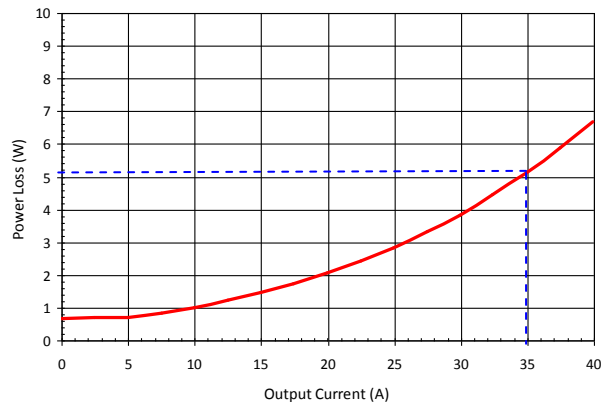

Figure 9: Typical IR3558 Power Loss
The measured single-phase IR3558 power loss under the same conditions is provided in Figure 9.
If any of the application condition, i.e. input voltage, output voltage, switching frequency, PVCC (HVCC/LVCC) MOSFET driver voltage or inductance, is different from those of Figure 9, a set of normalized power loss curves should be used. Obtain the normalizing factors from Figures 11-15 for the new application conditions; multiply these factors by the power loss obtained from Figure 9 for the required load current.
- 1) Determine the power loss at 35A under the default test conditions of  $V_{IN}=12V$ ,  $V_{OUT}=1.2V$ ,  $f_{SW} = 400kHz$ ,  $L=150nH$ ,  $PVCC$  (HVCC/LVCC) = 7V,  $T_{AMBIENT} = 25^{\circ}C$ , no heat sink, and no air flow. It is 5.2W from Figure 9.